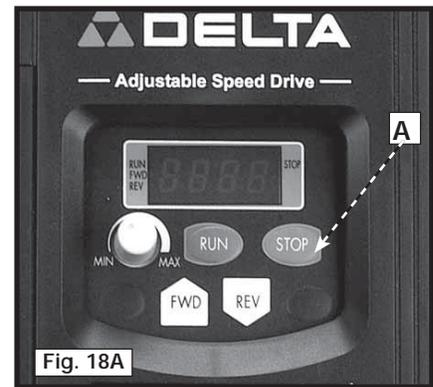

Fig. 18A
**⚠ WARNING** When the machine is turned off using the stop button (A) Fig 18A, the spindle will decelerate under power.